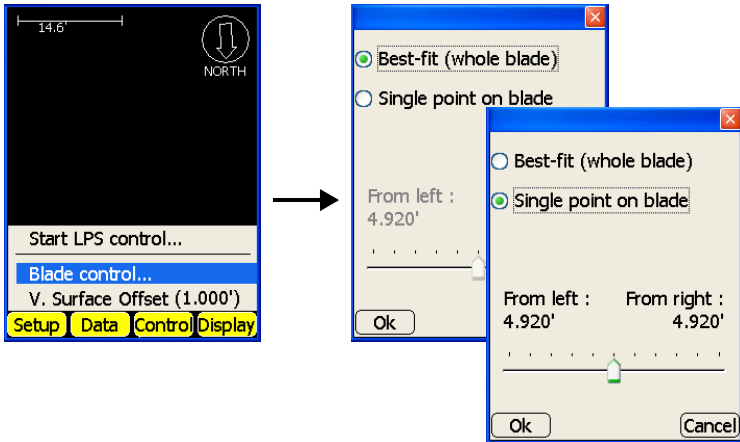

Figure 5-22. Apply Blade Control
1. To select the controlling position of the machine's cutting edge, tap **Control ▶ Blade Control** (Figure 5-22 on page 5-15).
2. On the *blade control* dialog box, select the desired method of blade control (Figure 5-22 on page 5-15).